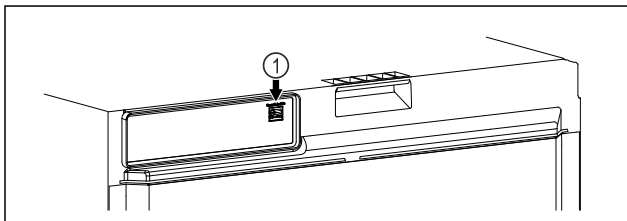

Fig. 104
- ❑ SmartModule Fig. 104 (1) has been inserted.